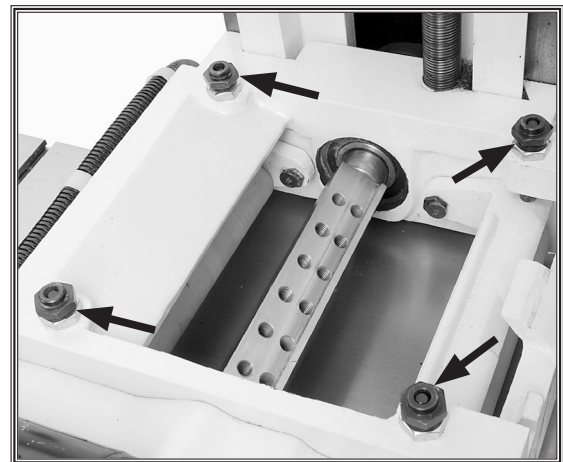

Figure 30. Feed roller tension adjustment.
3. Loosen and back off the four spring tensioner jam nuts (**Figure 30**) completely, and unthread the tensioner assemblies until you are sure that they are not touching the springs.